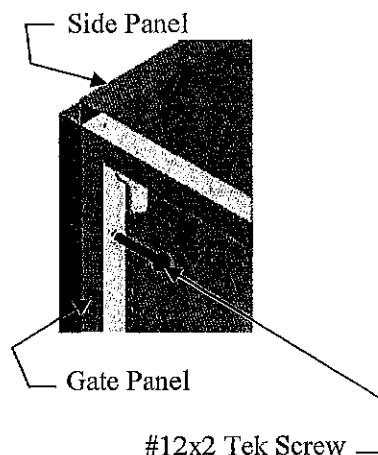

Figure 4
2. Attach the Gate Panel to the King Post using 2" Self-Drilling Tek Screws through the pre-drilled holes. Make sure that Gate Panel and King Post are flush up against each other (**Figure 4**).